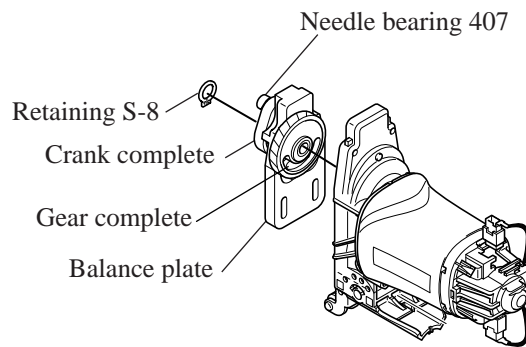

Fig. 27
2. Disassemble retaining ring S-8, and separate crank complete and balance plate from the shaft of gear housing as illustrated in Fig. 27.